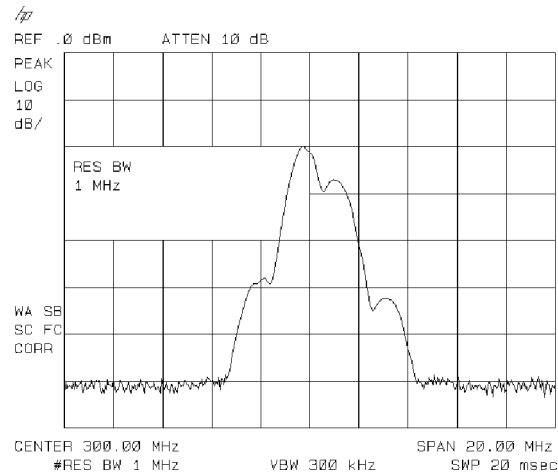

Figure 6-26. Viewing an AM Signal
2. First, center and zoom in on the signal in the frequency domain. (See “Decreasing the Frequency Span Using the Marker Track Function.”) Be sure to turn off the marker track function, since the marker track function must be off for zero span. See Figure 6-26.